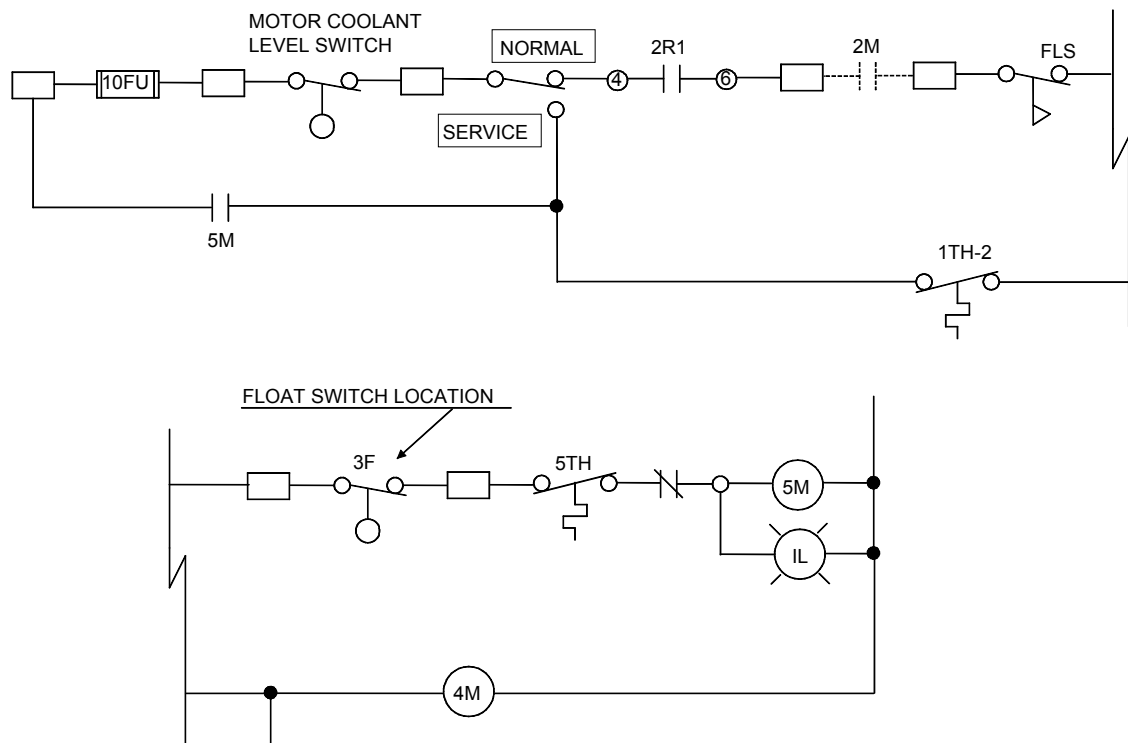

Figure 3 – Wiring for Float Switch (Electro-mechanical Control)
- d. For units with electro-mechanical control, and at least one pump on the unit is the old style: keep the motor coolant level switch wiring intact and install an additional switch in series just ahead of the refrigerant pump motor starter. See Figure 3 for a typical wiring schematic showing location of the float switch. Note that unit wiring may be different than shown.